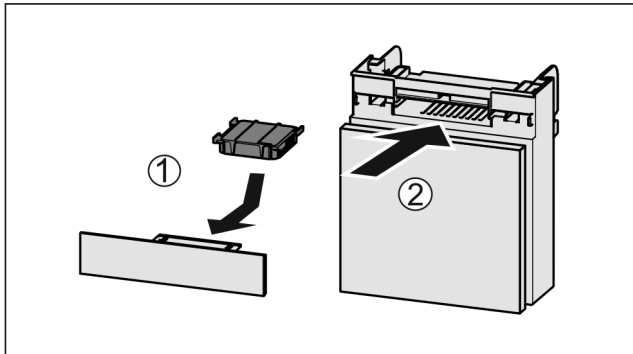

Fig. 46
- ▶ Insert the carbon filter as shown in the diagram Fig. 46 (1).
- ▶ Push the compartment in Fig. 46 (2).